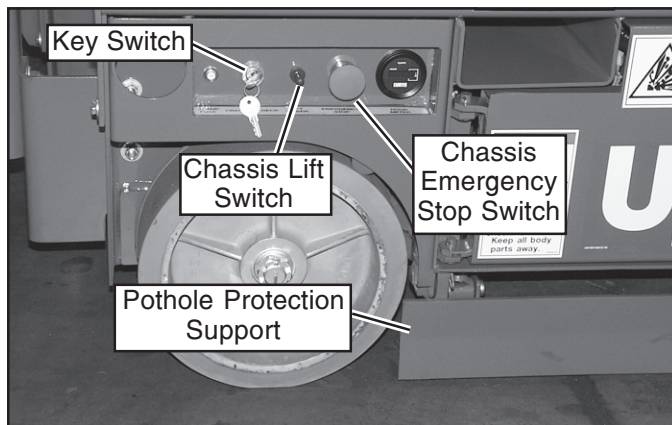

Figure 1: Chassis, Right Side
9. Turn Chassis and Platform Emergency Stop Switches ON (Figure 1 & 2) by pulling the button out.
10. Turn the Chassis Key Switch (Figure 1) to **CHASSIS**.
11. Push Chassis Lift Switch (Figure 1) to **UP**